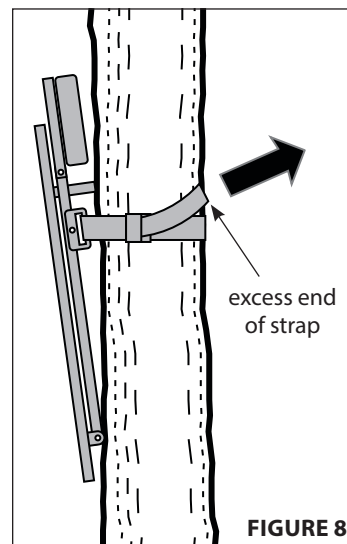

FIGURE 8
c. Pull on excess end of strap firmly - snugging up stand to tree. **SEE FIGURE 8**